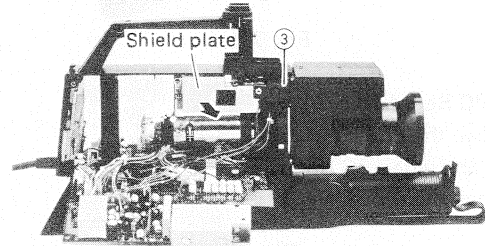

Fig. 4
#### 4. Preamplifier PC Board (Figs. 4, 5)
3. Remove the connector bracket fixed with screw (Fig. 4).
4. Remove the shield plate of the PC Board (Fig. 4).